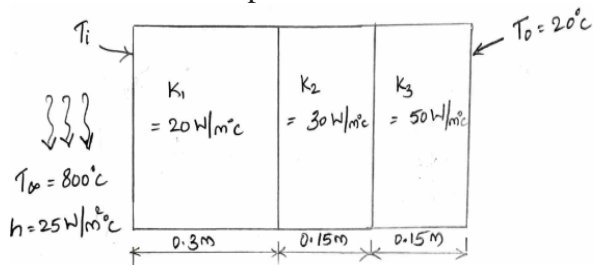

Figure 1
- A composite wall is as shown in figure 1 consists of three materials. The outer temperature T_o is 20°C . Convective heat transfer takes place on the inner surface of the wall with $T_\infty = 800^\circ\text{C}$. The convective heat transfer coefficient is $25 \text{ W/m}^2 \text{ }^\circ\text{C}$. Determine the temperature distribution in the wall.